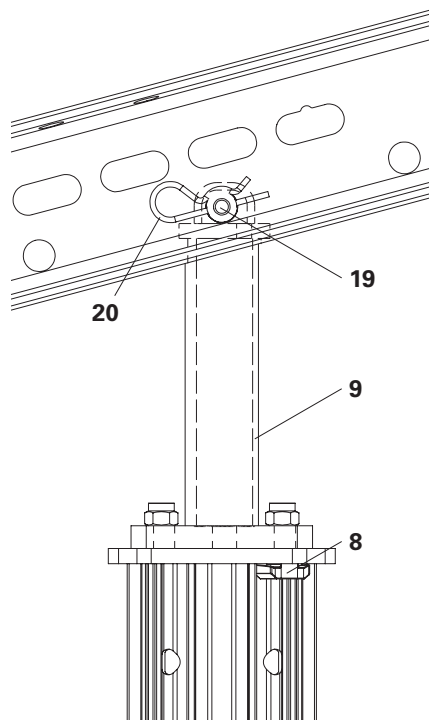
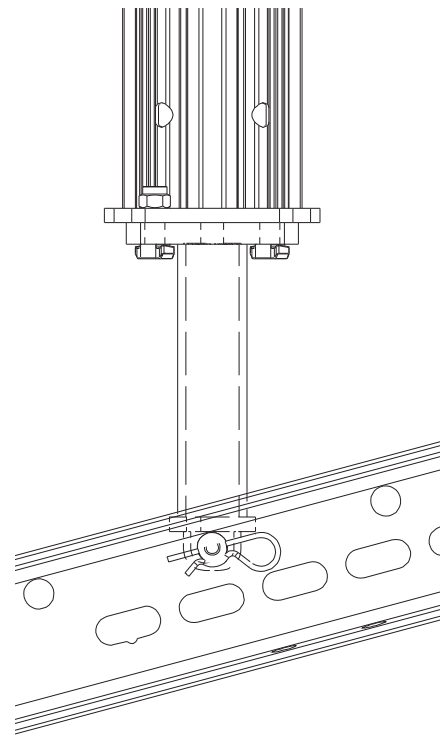

Fig. A2.10
Fig. A2.11
1. Fasten the Compression Brace Head MP/SRU (9) diagonally to the end plate of the MULTIPROP MP (1) using 2x Screw with Nut MP (8). (Fig. A2.10 + Fig. A2.11)
3. Fit the Compression Brace Head MP/ SRU (9) to the Steel Waler SRU U120 with Fitting Pin $\varnothing 21 \times 120$ mm (19) and Cotter Pin 4/1 ga (20).